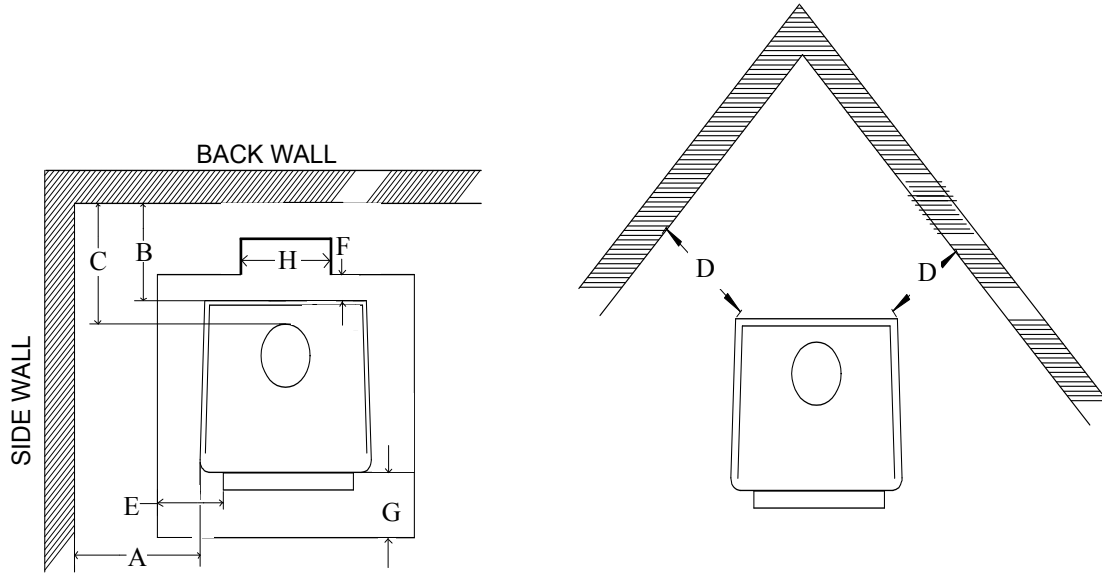

Figure 9
**NOTE:** Floor protector must be under horizontal pipe exit (See Figure 9, Page 19).